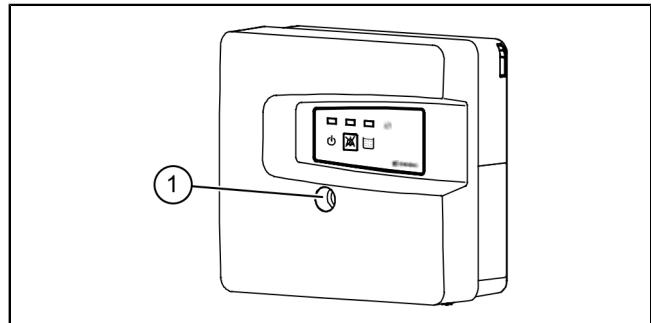

Fig. 5: Open the housing
- ▶ Open the housing cover ④ (see "Fig. 5: Open the housing", page 38).
- ▶ Pull the connection cable through the cable glands. ⑤
- ▶ Fasten the connection cable to the terminal strips as shown in the connection diagram (see "*Connection diagram*", page 36). ⑥